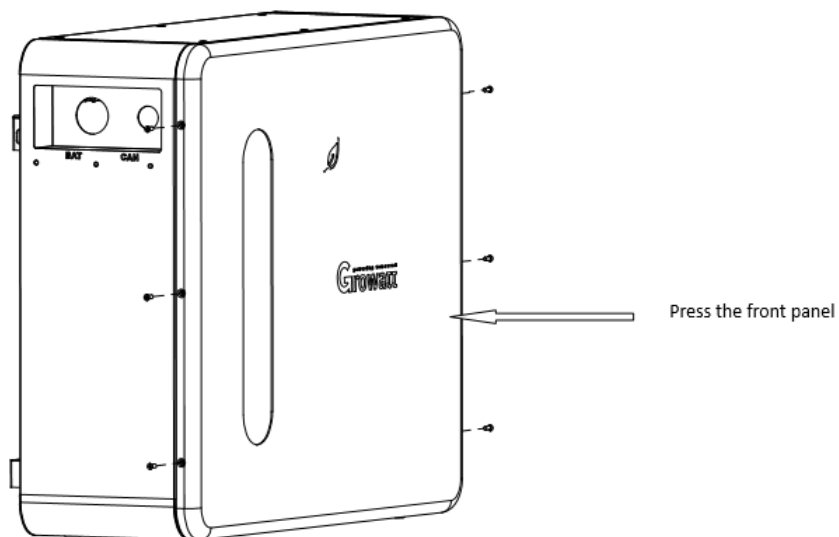

Figure 10
2. Press and hold the front panel of the box body by hand to compress the sealing bar to ensure the matching of the hole position of the cross screws. Use the cross screwdriver to tighten the 6 M4 countersunk screws (as shown in Figure 10).